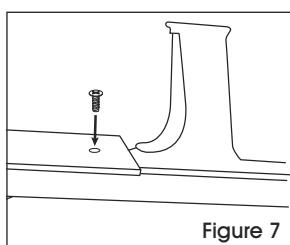

Figure 7
7. Remove the channel screw located under the #975 gun. Place the arm rest in position and apply Loctite 222MS to the threaded hole. Replace with the supplied 8-32 x 3/4" Phillips screw. (See Figure 7)